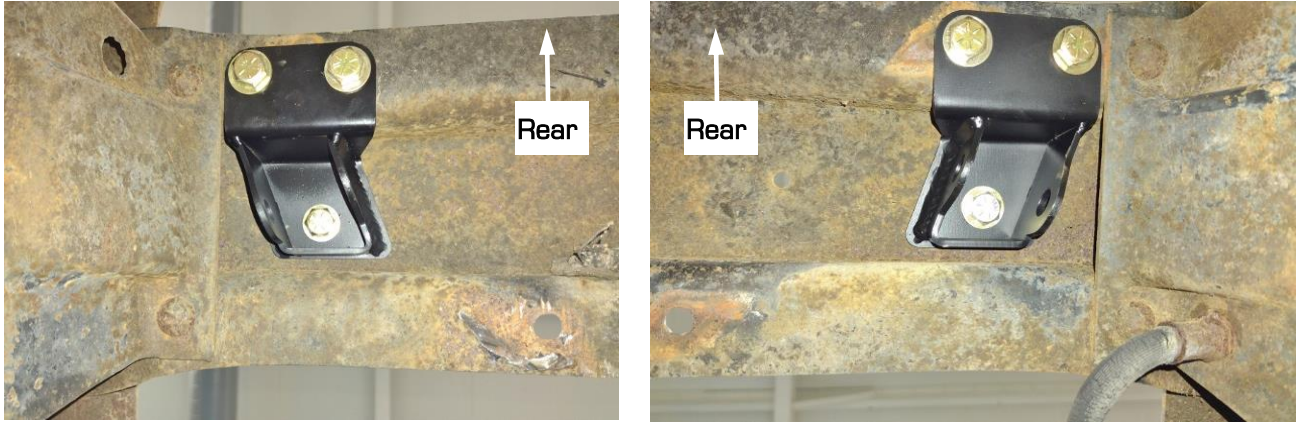

Figure 7 - Install Upper Shock Mounts
10. Install the upper shock mounts into the crossmember using the provided 3/8"-24 hardware. Use anti-seize on the threads of the bolts. Torque the 3/8"-24 hardware to 35 ft-lbs. (Figure 7).